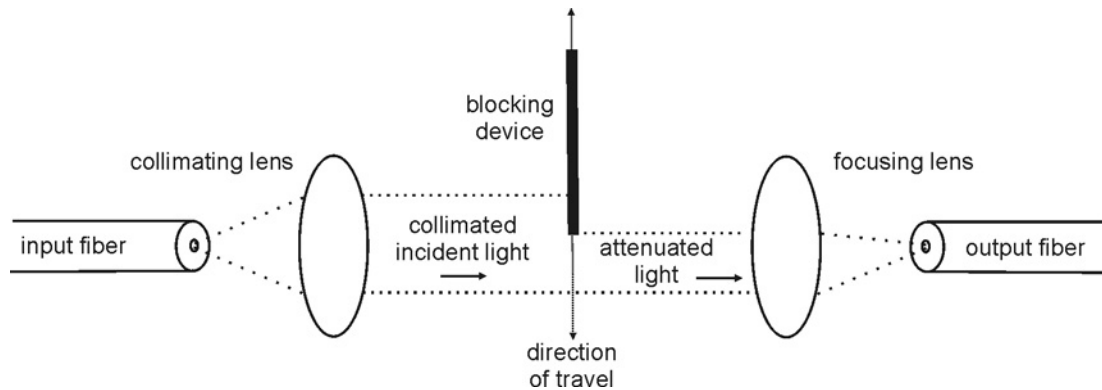

Figure 2: DA-100 Blocking for Single-mode Operation
In single-mode fiber applications, the blocking type attenuator is used. Light from the source fiber is collimated into a beam diameter of approximately 0.4 to 0.6 mm, within a wavelength range of 350 to 2050 nm. The width of the beam depends on the lens, wavelength, and numerical aperture (NA) of the fiber. A blocking device, shown in Figure 2, is inserted into the beam of collimated light to attain the attenuation required.